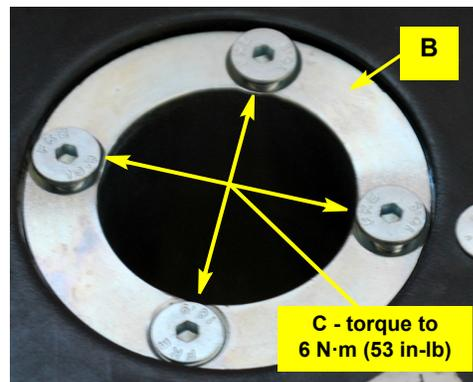

Figure 1b: Securing the shaft adapter
- b. Using the four countersunk screws **C**, secure **B** in **A**. Torque the screws to **6 N·m (53 in-lb)** (Figure 1b).